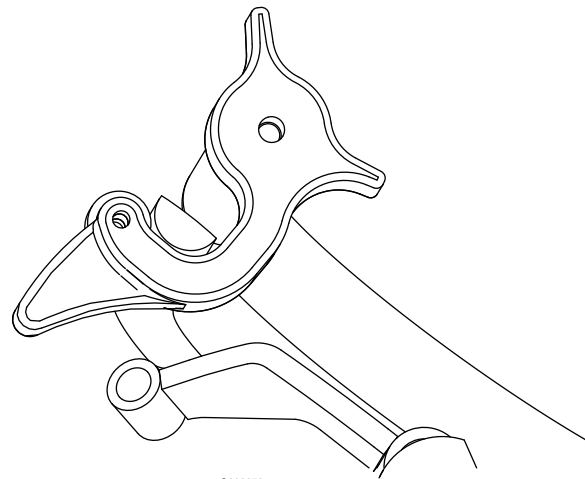

Figure 18
1. With rear of machine still on jack stands and engine running at full throttle, disengage the park brake and move the speed control lever to the midway position. Move the respective drive lever upward until it reaches the neutral position and engage neutral lock latches (Figure 18). If the tire rotates in either direction, the length of the drive lever link will need to be adjusted.